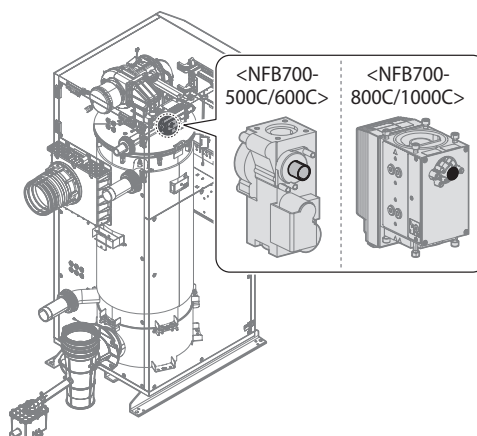

Figure 12. Set Screw Location
- Activate multiple zones and set the boiler to operate at 1Step MIN mode (refer to "10.7.9 Setting the Operation Modes" on page 116). Measure the offset value at low fire and compare it to the values in Table 3. If the offset value is out of range, the gas valve set screw will need to be adjusted. If adjustment is necessary, locate the set screw as shown in Figure 12. Using an Allen or Star Wrench, turn the set screw no more than 1/4 turn clockwise to raise or counterclockwise to lower the offset value.